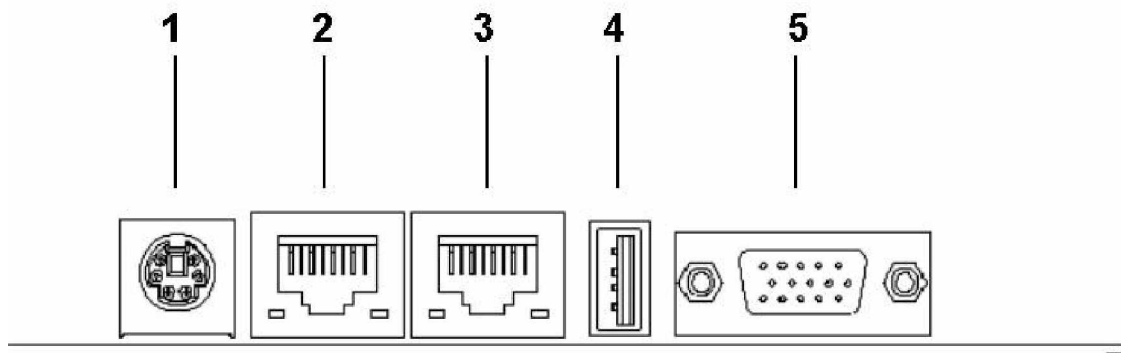

Figure 3-18: 3301690 CPU Board Rear Panel
Figure 3-18 shows the 3301690 CPU board rear panel. The peripheral connectors on the back panel can be connected to devices externally when the CPU card is installed in a chassis. The peripheral connectors on the rear panel are:
**CN Location:** See Figure 3-18 (labeled number 1)
- CN Location:** See **Figure 3-18** (labeled number 2)
- CN Location:** See **Figure 3-18** (labeled number 5)
**CN Location:** See **Figure 3-18** (labeled number 7)